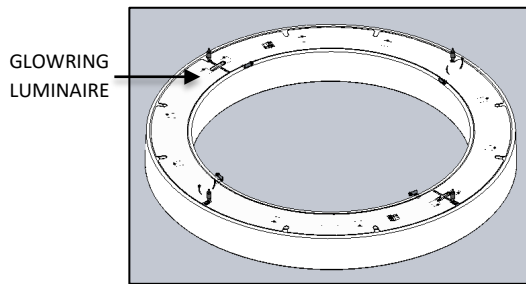

FIG.4 GLOWRING LUMINAIRE (PRE-ASSEMBLED)
1. GLOWRING LUMINAIRE. (Pre-assembled as shown in FIG. 4)